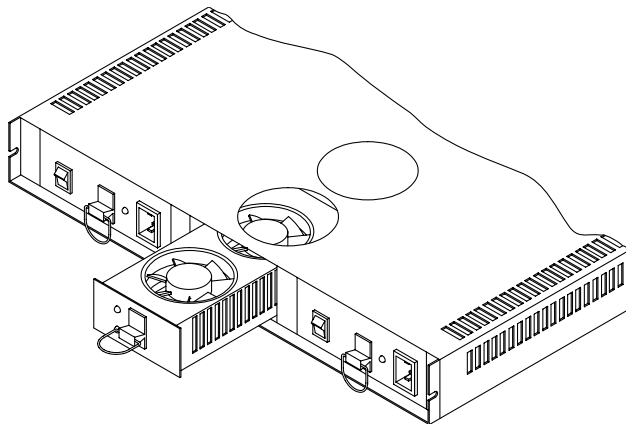

FIGURE 8-3 Removing the Power Supply Fan
2. Pull the power supply fan out of the chassis (FIGURE 8-3).
3. Install the new power supply fan canister, sliding the canister firmly into the slot until it locks into place (reverse of FIGURE 8-3).